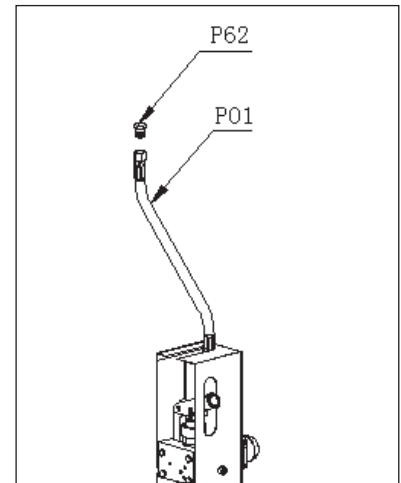

Fig. 5
- Take off the plunger (P62) from the oil hose (P01) (refer to Fig. 5).